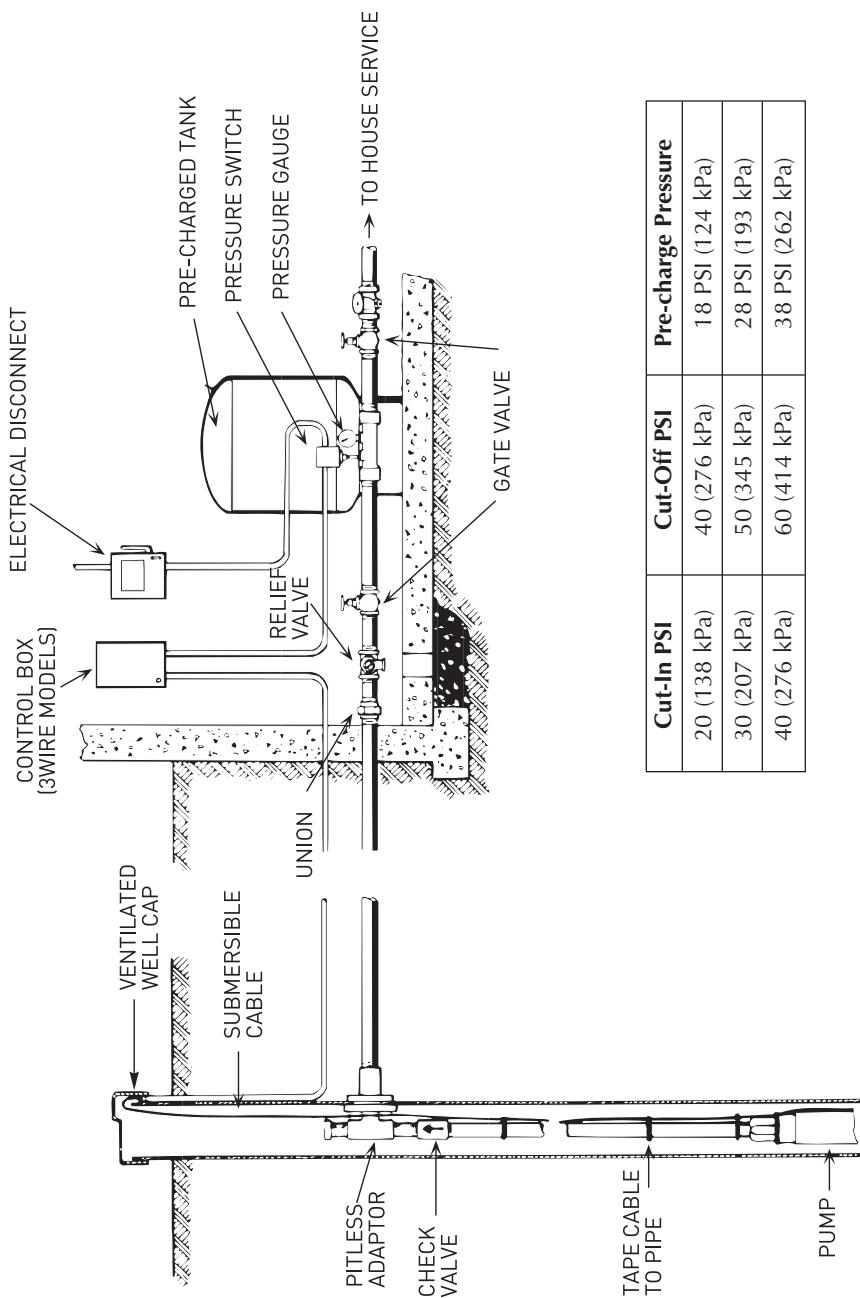

FIGURE 14 – Typical Submersible Installation with Pre-charged Tank
- Remove gate valve for permanent installation near tank (see Figures 14 and 15, Pages 20 and 21).
See Figure 14, Page 20 for piping connections to pre-charged pressure tank.